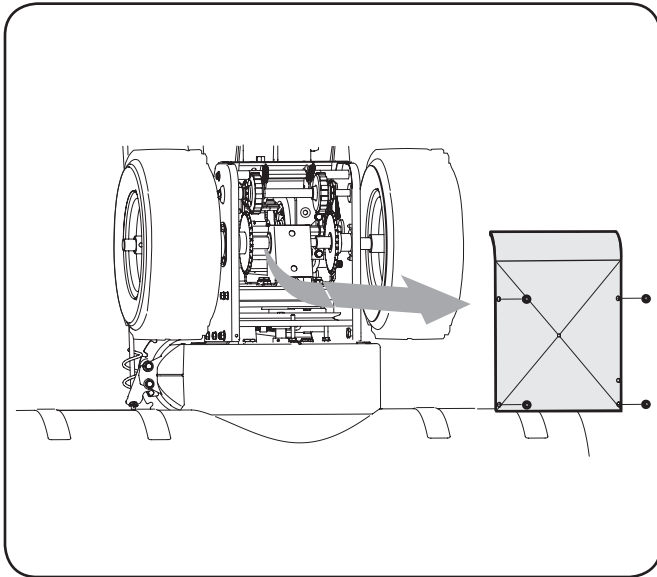

Figure 6-6
1. With the snow thrower tipped forward (be certain to drain gasoline or place plastic film under the gas cap if the snow thrower has already been operated), remove the frame cover underneath the snow thrower by removing the self-tapping screws. See Figure 6-6.